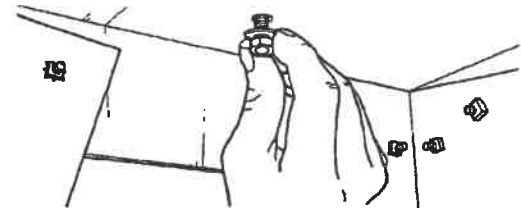

Fig. A-8
16. From below, secure the screw (41) with a split lock washer (42) and hex nut (43), as shown in Fig. A-8. Finger tighten.